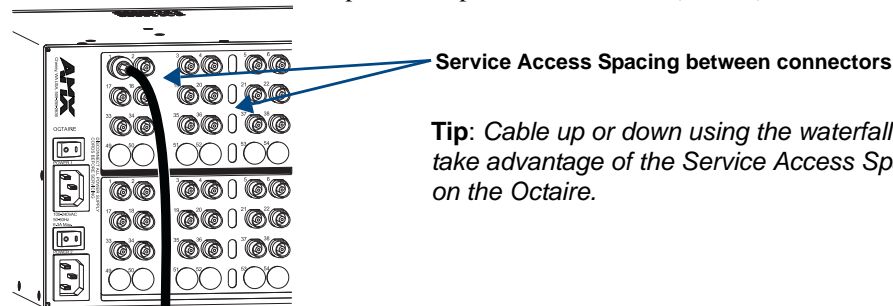

FIG. 14 Fasten cables onto input and output BNC connectors
1. Fasten the cables onto the input and output BNC connectors (FIG. 14).